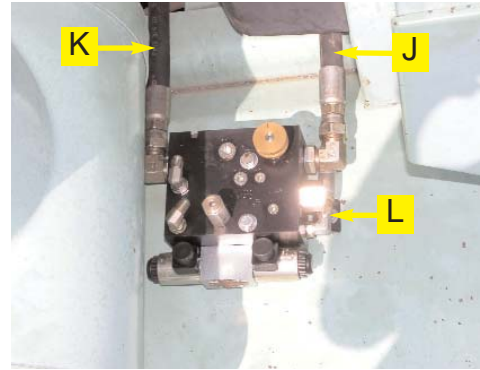

Figure 4c. Installed pressure, excess flow and tank hoses at the automated steering block (PT models).
- c. Connect the pressure hose (**J**) from the **P** port on the automated steering block to the open fitting on the hydraulic flow divider. Connect the excess flow hose (**K**) from the **EF** port on the automated steering block to the open port on the valve stack. (Figure 4c., 4d. and 4e.)
- d. Install the adapter fitting (**I**) to the tank run tee (**H**). Connect the tank hose (**L**) from the **T** port on the automated steering block to the tank adapter fitting (**I**). (Figure 4c. and 4e.)